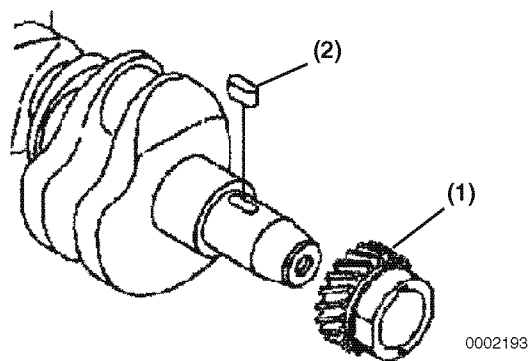

Figure 6-59
- If necessary, remove the crankshaft gear (**Figure 6-59, (1)**) and key (**Figure 6-59, (2)**). If using a gear puller, be careful not to damage the threads in the end of the crankshaft.